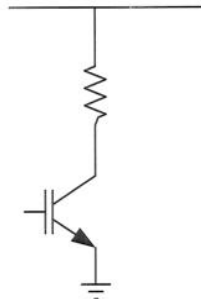
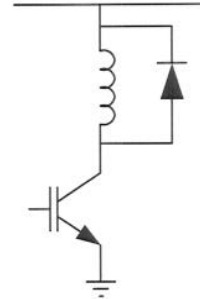

Figure Q4.1 IGBT with resistive load
Figure Q4.2 IGBT with inductive load
- a) Explain why the switching losses in the circuit of Figure Q4.1 are lower than the switching losses in the circuit of Figure Q4.2, when the supply voltage, on-state steady current and gate drive circuit are the same in each case. [4]